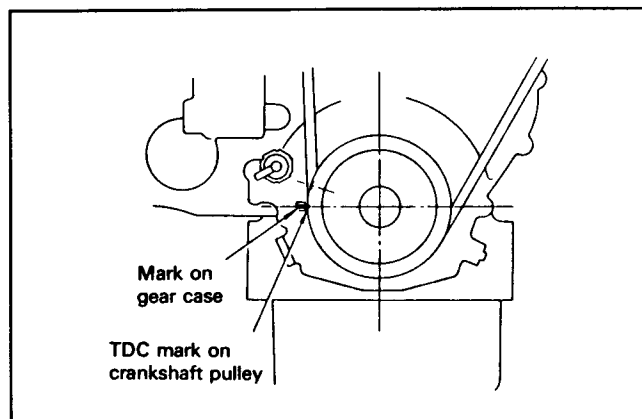

Figure 10
5. Rotate the crankshaft until the TDC mark (located next to the injection timing mark(s) on the pulley lines up with the registration mark on the gear case (Fig. 10). This will be TDC on cylinder No. 1.